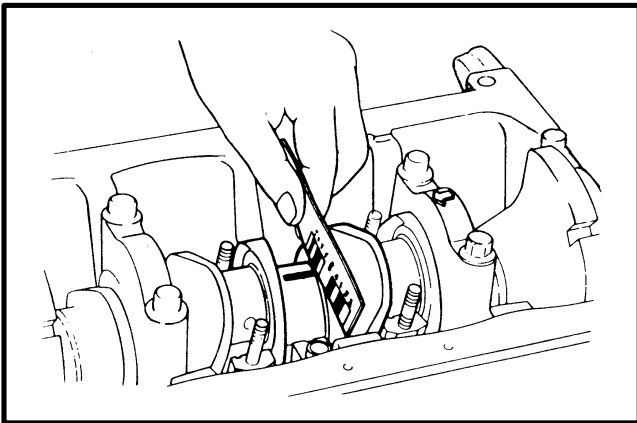

FIGURE 30. CHECK THE CLEARANCE OF THE CONNECTING ROD BEARINGS
2. Check the clearance between the rod bearings and the journals of the crankshaft. Clean the rod bearings and journals. Use a plastic gauge material between the journal and the bearing. Tighten the capscrews for the rod caps to 51 to 56 N.m (37 to 41 lbf ft). Do not rotate the connecting rod. See FIGURE 30. The correct clearance is 0.027 to 0.067 mm (0.0011 to 0.0026 in). If the clearance is greater than the specifications, replace the bearings.